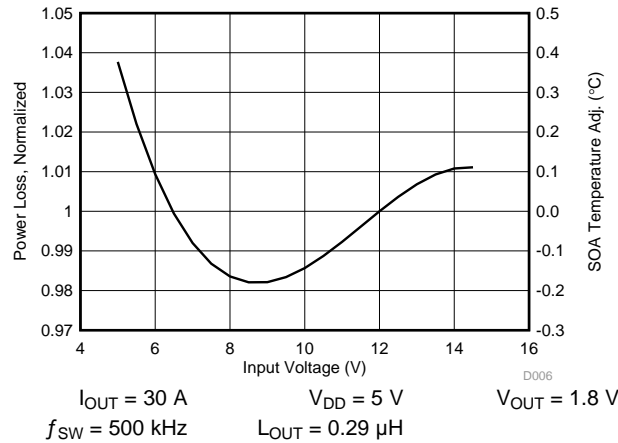

Figure 9. Normalized Power Loss vs Input Voltage
- Normalized power loss for input voltage  $\approx$  0.99 (Figure 9)
- SOA adjustment for input voltage  $\approx$  -0.09°C (Figure 9)